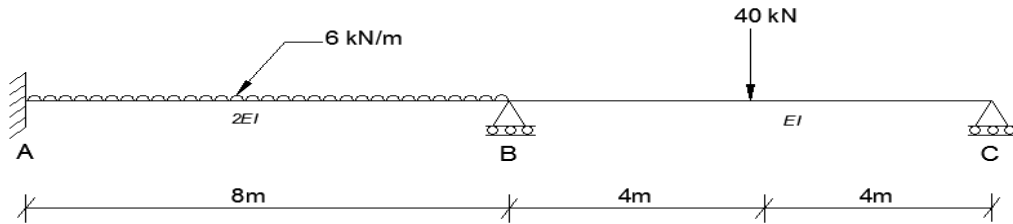

Figure 4.
9. Calculate the support reactions in the continuous beam ABC due to loading as shown 14M in **figure 4** by flexibility method. Take $E= 200\text{GPa}$, $I = 200 \times 10^6 \text{ mm}^4$. Draw BMD.